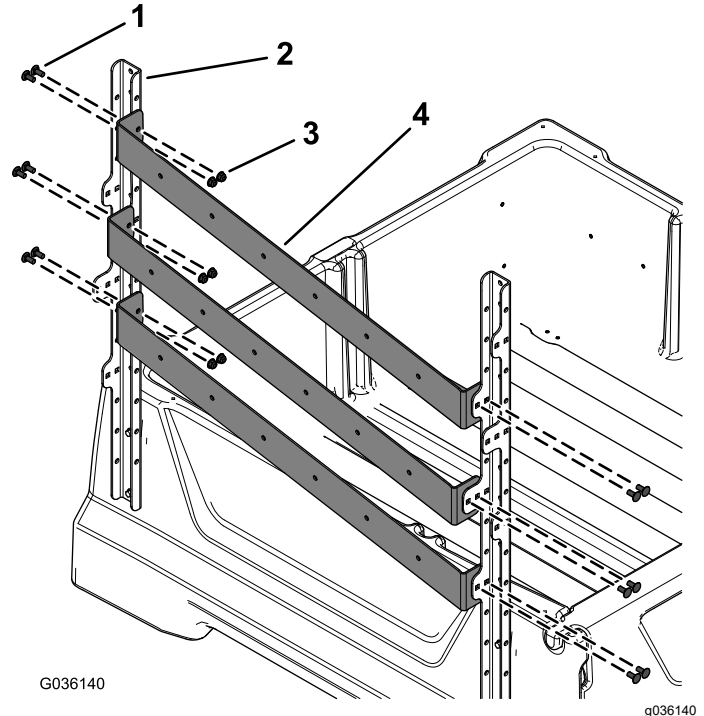

Figure 3
2. Install the 3 shovel mounts to the side upright frame brackets with 12 carriage bolts (5/16 x 3/4 inch) and 12 flange nuts (5/16 inch) as shown in Figure 3.